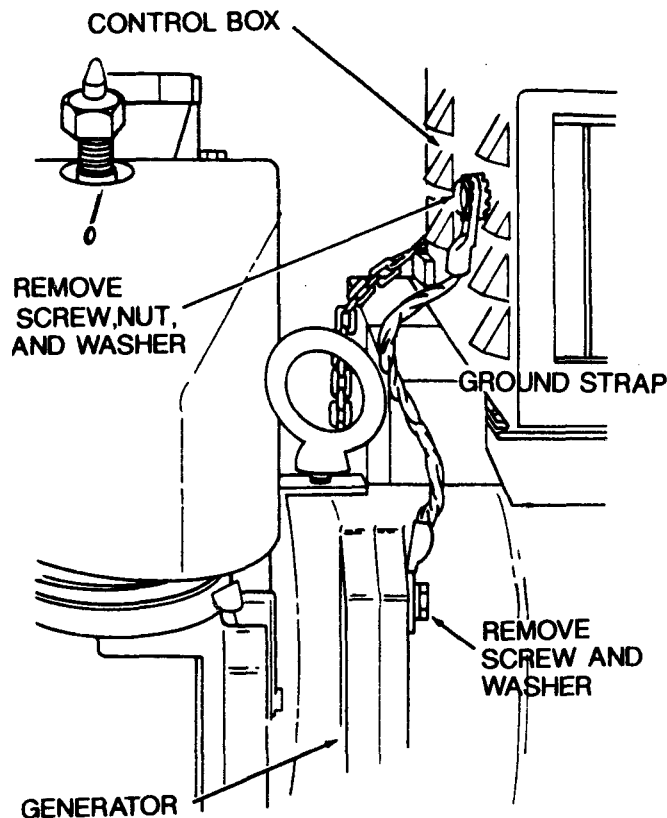

Figure 4-10. Ground strap, removal and installation.
a. *Removal.* Refer to figure 4-10 and remove the ground strap.
(1) Clean and dry the ground strap thoroughly.
(2) Inspect the ground strap for burned areas, frayed spots, broken strands, loose connectors, and other damage.
(3) Replace a defective ground strap.
c. *Installation.* Refer to figure 4-10 and install the ground strap.